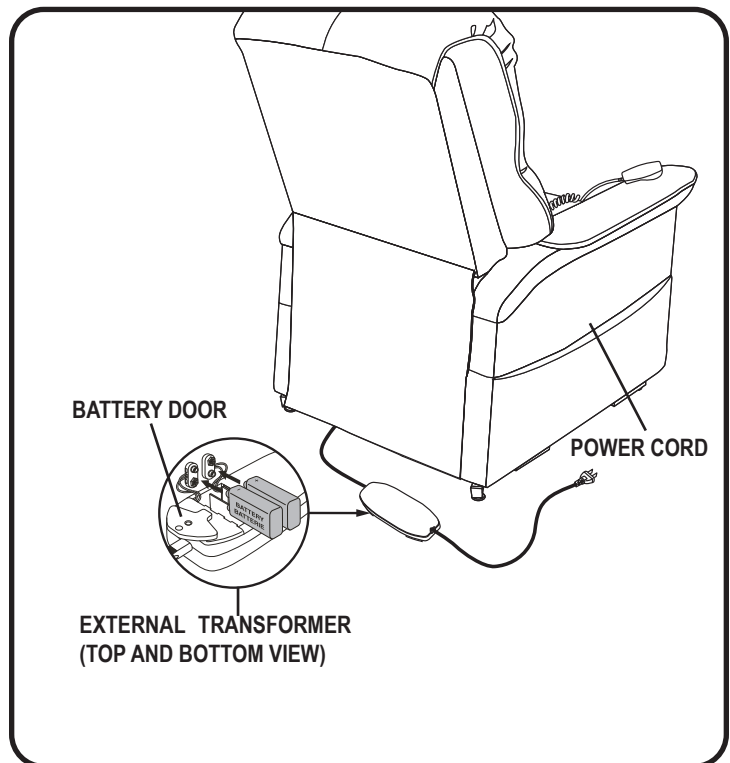

Figure 4.4 Chair Battery Back-up Location
3. Install two 9V batteries in the external transformer (fig. 4.4).